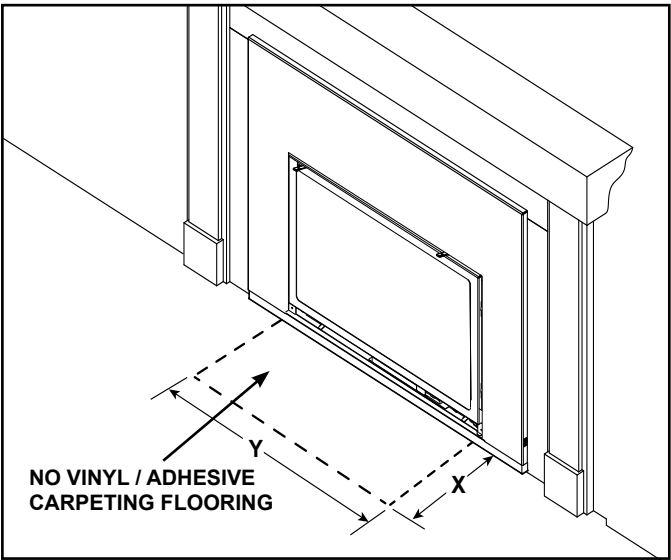

Figure 3.15 Combustible Material Exception
- Combustible flooring may be located in front of the appliance. Exception - no vinyl / adhesive or carpeting flooring. See Figure 3.15.